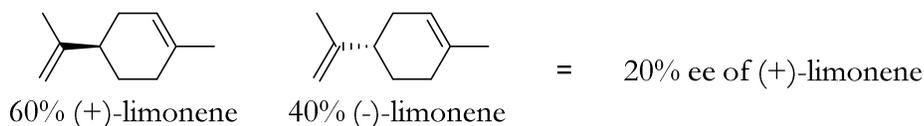

Figure 9-4: A limonene sample with 20% ee of (+)-limonene.
**Enantiomeric excess** or **ee** can be used to describe how much more there is of one enantiomer than the other. This is the percent of the more prevalent enantiomer, minus the less prevalent enantiomer. For example, the mixture containing 60% of (+)-limonene and 40% of (-)-limonene would have an ee of 20% (R), as shown in Figure 9-4.